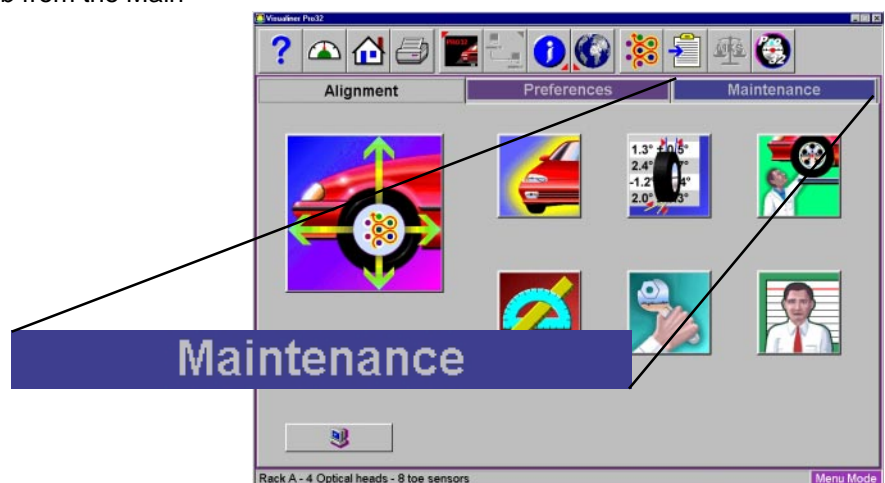

Figure 3-22
6. Choose the <**Maintenance**> tab from the Main Menu. (Figure 3-22)